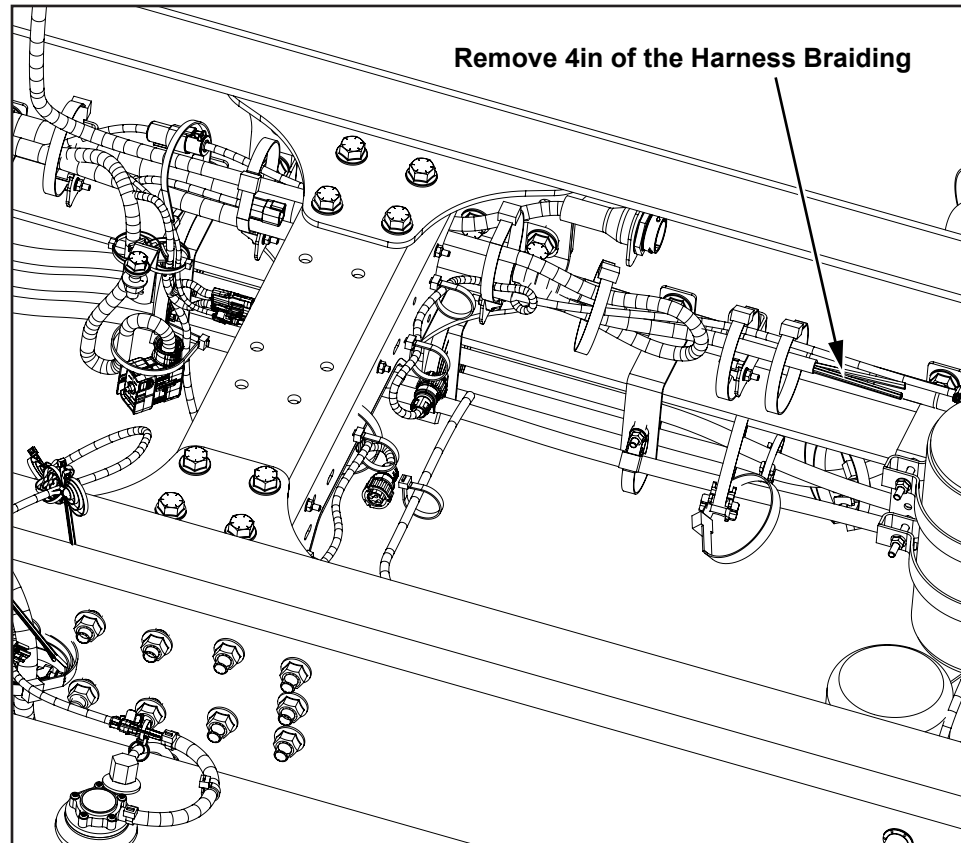

Figure 4
5. Remove 4in of the harness braiding and the electrical tape to gain access to the individual wires/cables (see *Figure 4*).